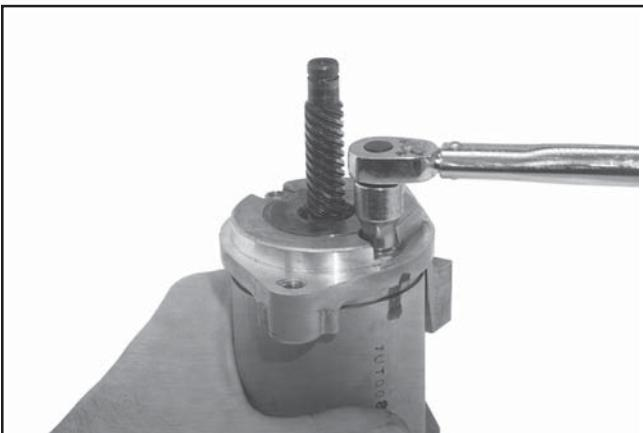

Figure 8-54. Torquing Thru Bolts.
- Align all scribe marks and install the thru bolts with O-Rings. Torque the bolts to  $5.3 \text{ N}\cdot\text{m}$  (48 in. lb.). See Figure 8-54.